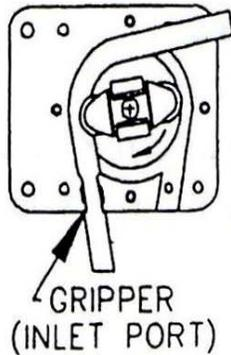

FIG. 2
7. Push new tubing into inlet port, anchoring tubing in grippers. If using a 9" piece of tube, 1 1/2" should be extended outside of inlet port. (figure 2)